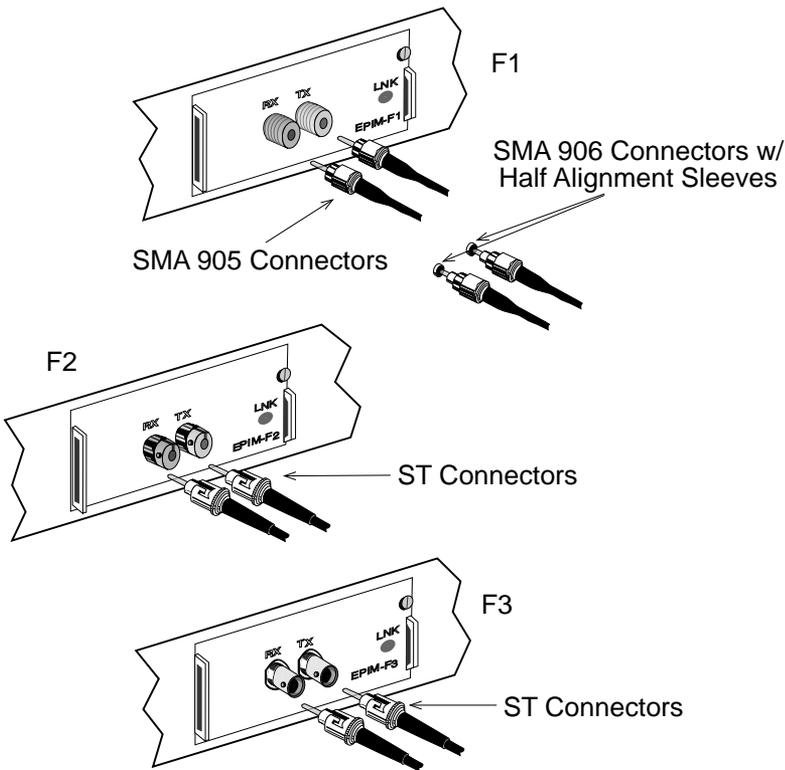

Figure 3-2. The EPIM-F1, EPIM-F2 and EPIM-F3
2. Attach the fiber labeled 1 to the applicable receive port, labeled **RX**, on the module. See Figure 3-2.